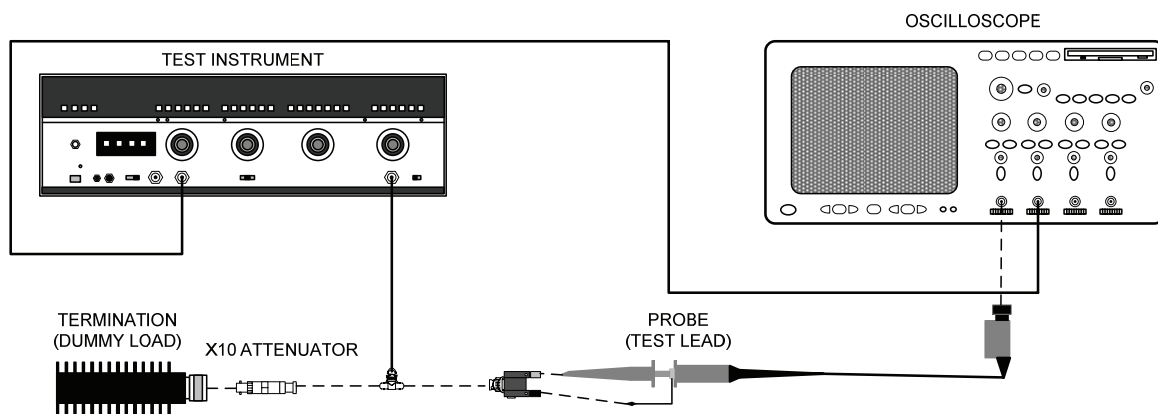

Figure 3. Equipment setup - pulse width and duty cycle.
- (1) Connect equipment as shown in figure 3.
- (2) Position controls as listed in (a) through (j) below.